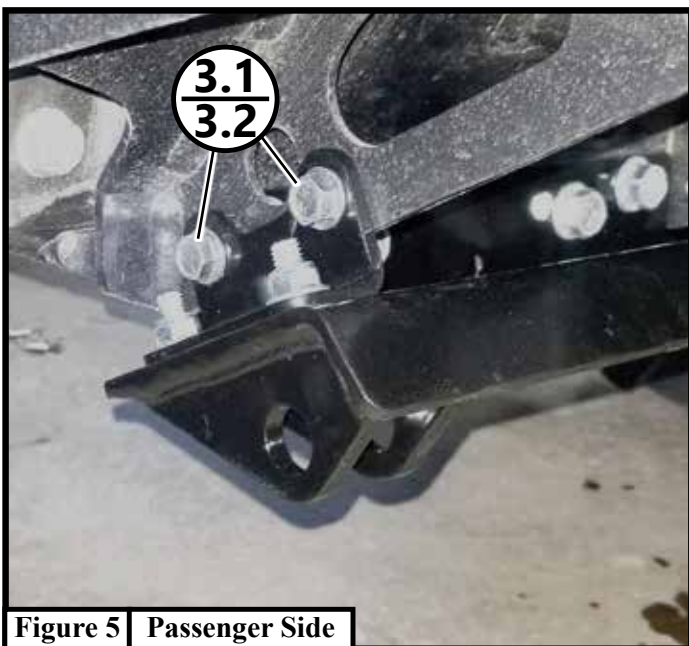

Figure 5 Passenger Side
“Figure 5” Lift Hook Bracket Positions
7. The tube system provides four lift hook bracket positions. See **Figure 5**. Select the position that provides the desired lift height and cable/rope angle.
8. The tube system provides three blade angle positions in 25° increments. To change blade angle, pull the pull pin (**Figure 5**, Item 4.5) and rotate the blade left or right until the desired position is reached. See **Figure 6**.
4. Bolt plow mount bracket (2) to OEM front receiver using 5/16" bolts (3.1) and 5/16" nuts (3.2) as shown in Figure 5. Repeat step 4 for driver side.